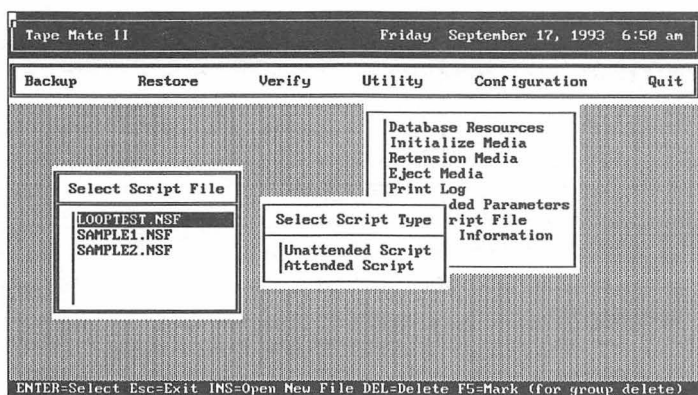

Figure 47 Select Script File Menu
- 3 Select **Unattended Script** or **Attended Script**. The Select Script File menu appears, listing script files in the directory that contains **Tape Mate II** software (see *Figure 47*). If you selected **Attended Script**, the list displays only the attended script files. If you selected **Unattended Script**, it displays only unattended script files.